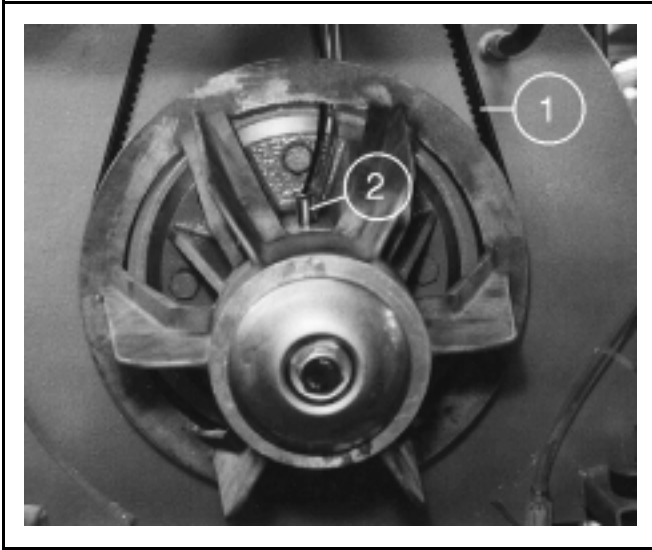

FIGURE 1 (MSSMA424AE)
2. Determine belt deflection for the tested belt (see FIGURE 1, Item 1 for the belt location, and Table below for the setting). Move lower O-ring to the correct setting (inches or centimeters) on scale. Read the bottom edge of the O-ring.